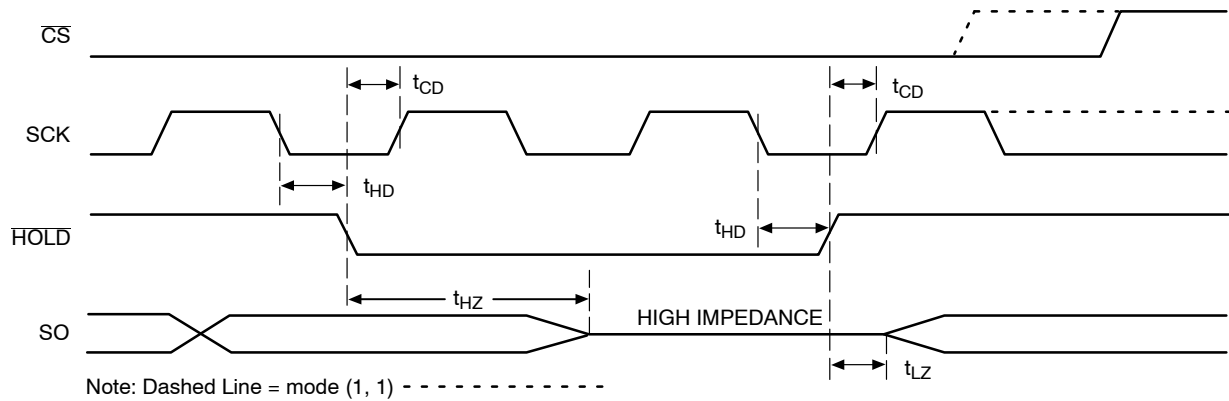

Figure 11.  $\overline{\text{HOLD}}$  Timing
The  $\overline{\text{HOLD}}$  input can be used to pause communication between host and NV25M01. To pause,  $\overline{\text{HOLD}}$  must be taken low while SCK is low (Figure 11). During the hold condition the device must remain selected ( $\overline{\text{CS}}$  low). During the pause, the data output pin (SO) is tri-stated (high impedance) and SI transitions are ignored. To resume communication,  $\overline{\text{HOLD}}$  must be taken high while SCK is low.